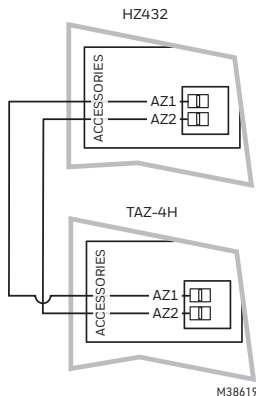

Fig. 5. TAZ-4H Add-A-Zone panel wiring.
1. Connect AZ1 on the HZ432 to AZ1 on the TAZ-4H Add-A-Zone panel. See Fig. 5.
2. Connect AZ2 on the HZ432 to AZ2 on the TAZ-4H Add-A-Zone panel. See Fig. 5.